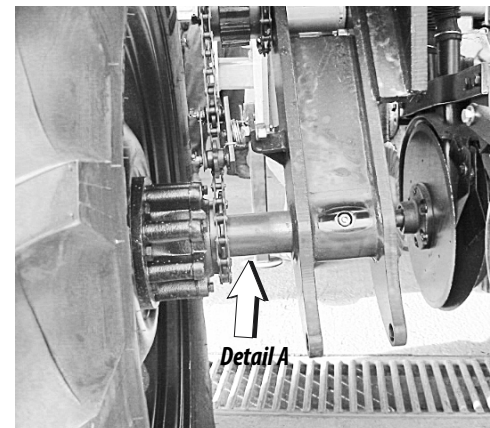

Figure 66
14- Operate the rockshaft (22) of the seed drill detail "A" in the up position, in order to latch it by inserting the pin (23) and latch (24), leaving it fastened. Figure 62. figures 66 et 67.